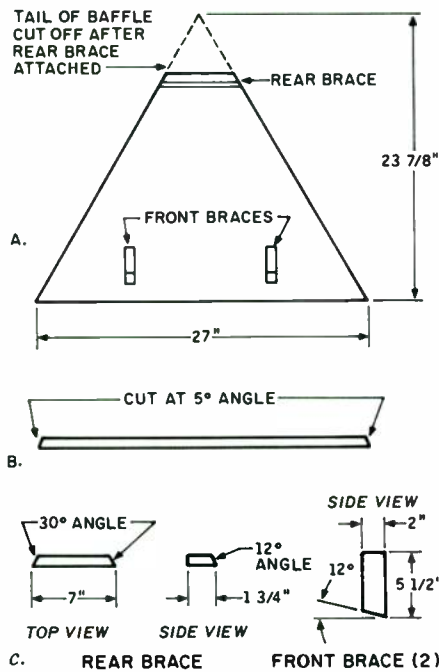

FIGURE 6: Baffle and brace positioning: a. top view; b. front view; c. rear and front brace.
**TOTALLY BAFFLED.** Cut out the baffle and its braces (Fig. 6). Temporarily fit the baffle in place with screws; it will overhang the cabinet front. Using the